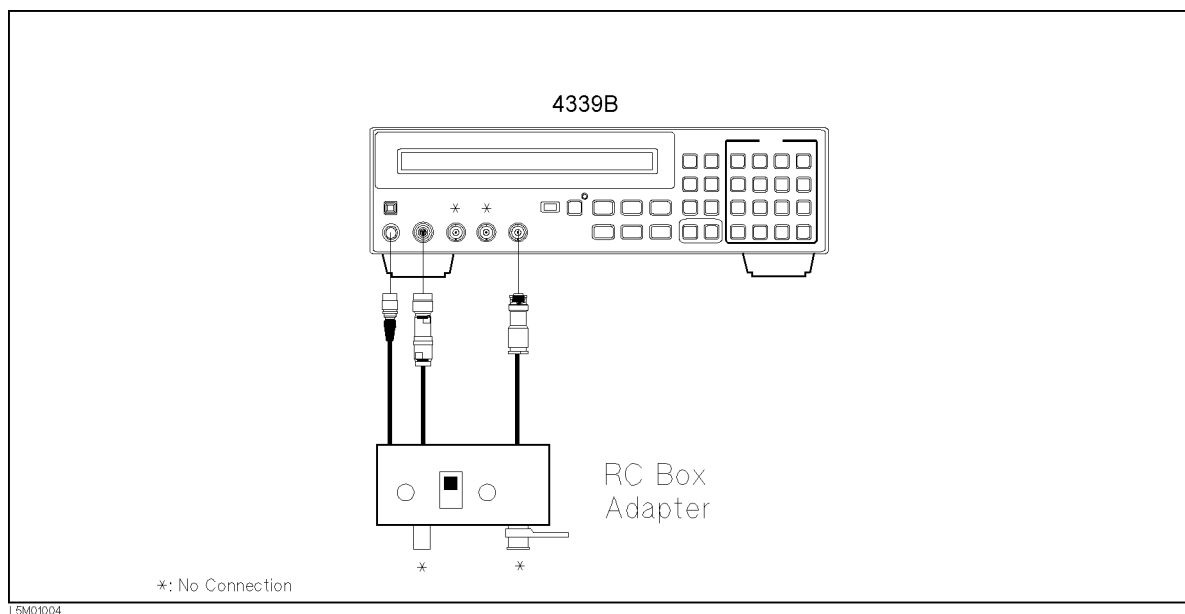

Figure 9-13. Contact Check Functional Test Setup
- Set up the equipment as shown in Figure 9-13.